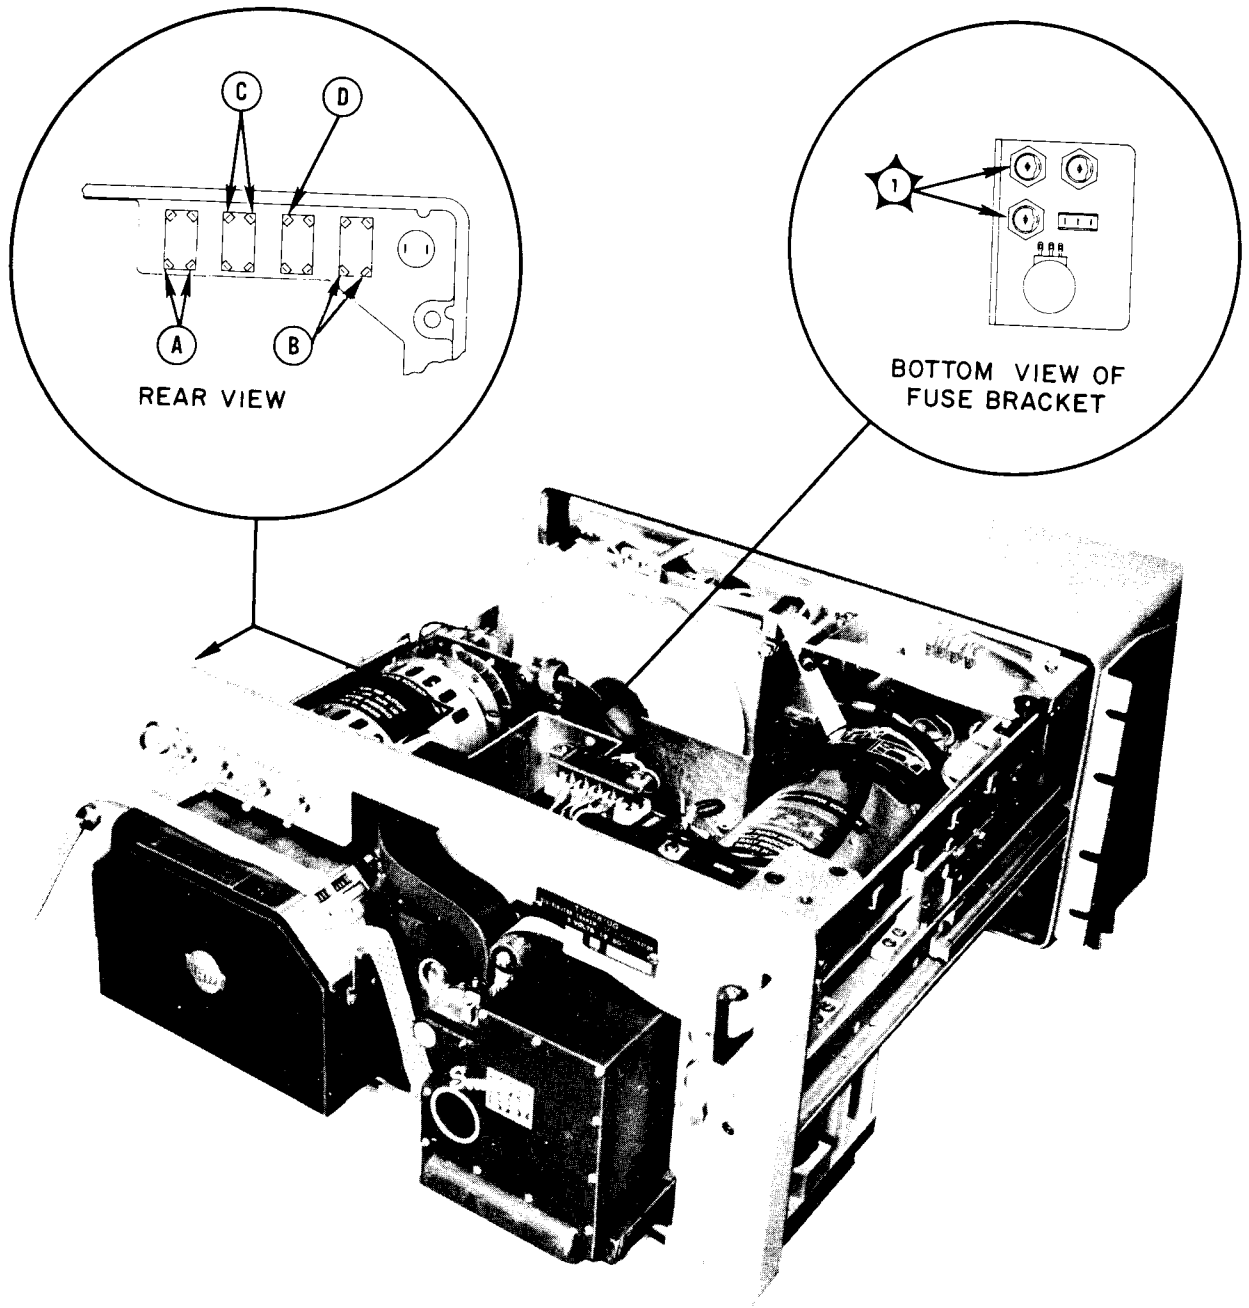

Figure 5-1. Power Circuit, Test Point Location
(1) PHOTOGRAPH. - Figure 5-1 physically locates the test points used in the power circuit functional section troubleshooting chart (table 5-4).